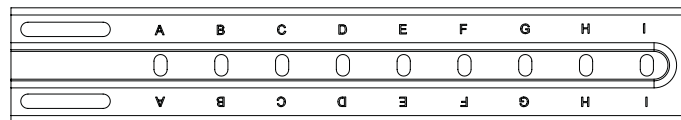

Figure 8. Back mounting bracket holes
9. Determine which holes in the back mounting brackets to use. The back mounting holes are lettered A - I, as shown in Figure 8.